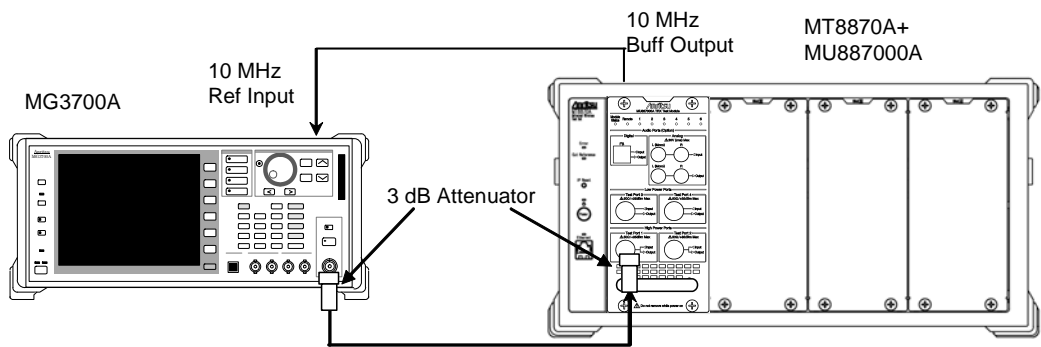

Figure 5.3.3-1 Setup for Measuring Frequency/Modulation
1. Setup the instruments as shown in Figure 5.3.3-1.